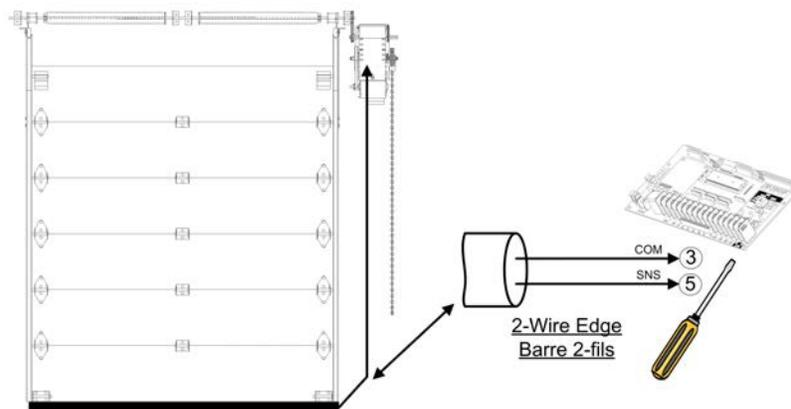

Figure 17 - Electric Reversing Edge
3. Use a coil cord or take-up reel to connect the sensing edge wires to the operator terminals. Install electric wires according to Figure 17.